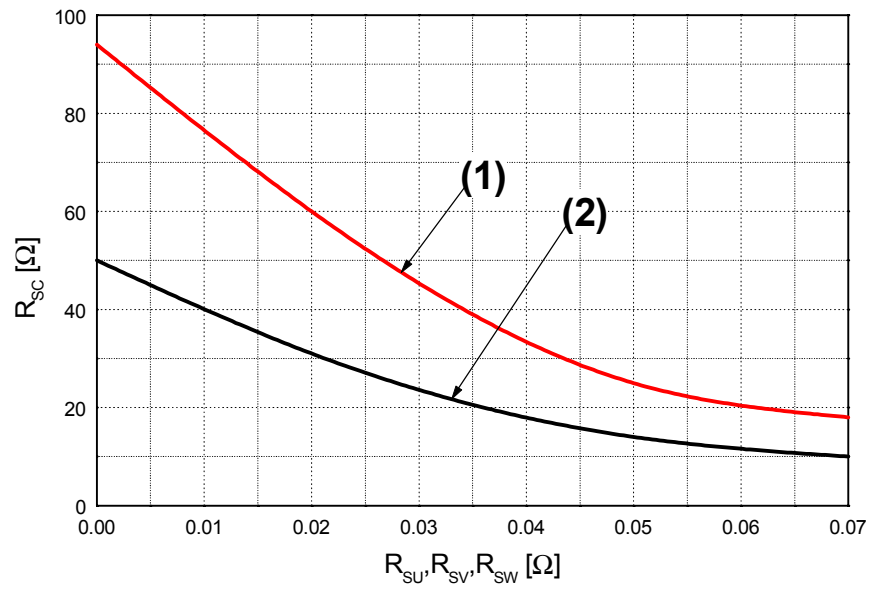

Fig. 6. R_{SC} Variation by change of Shunt Resistors (R_{SU} , R_{SV} , R_{SW}) for Short-Circuit Protection
5. Short-circuit current protection is functioning only at the low-sides. It would be recommended that the value of the external sensing resistor (R_{SC}) should be selected around 50 Ω in order to make the SC trip-level of about 30A. at the shunt resistors (R_{SU}, R_{SV}, R_{SW}) of 0Ω. For the detailed information about the relationship between the external sensing resistor (R_{SC}) and the shunt resistors (R_{SU}, R_{SV}, R_{SW}), please see Fig. 6.